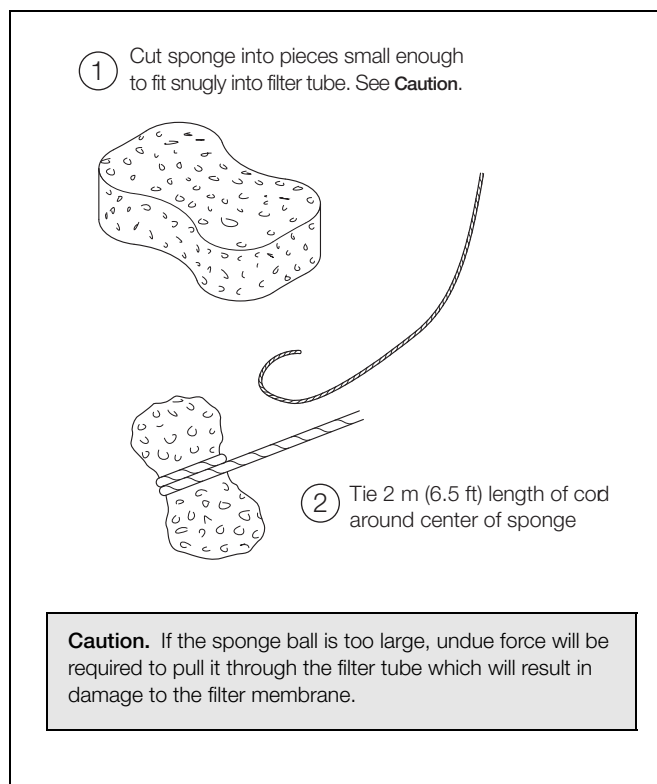

Fig. 4.1 Preparing pull-through sponge ball
A pull-through sponge ball is required. This is easily fabricated from a suitably sized piece of sponge and length of cord – see Fig. 4.1.
2. Thread the cord of a pull-through sponge ball (see Fig. 4.1) through the filter tube and pull the sponge through the entire length of the tube to remove any material on the surface on the filter membrane. Clean the sponge and repeat the process until the sponge appears clean.
6. Thread the cord of a pull-through sponge (see Fig. 4.1) through the filter tube and pull the sponge through the entire length of the tube to remove any material on the surface on the filter membrane loosened by the cleaning solution. Clean the sponge and repeat the process until the sponge appears clean.